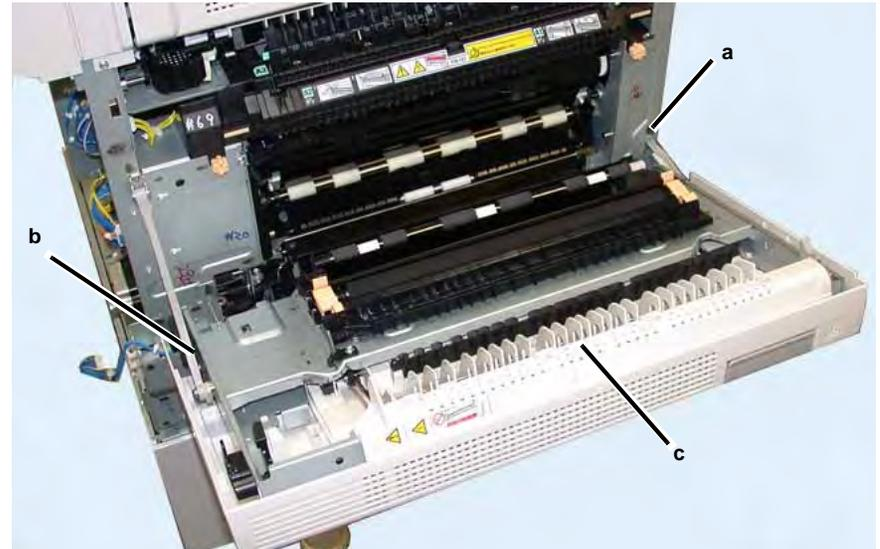

Figure 2 Left Hand Cover
4. Remove the Left Hand Cover Assembly (Figure 2).